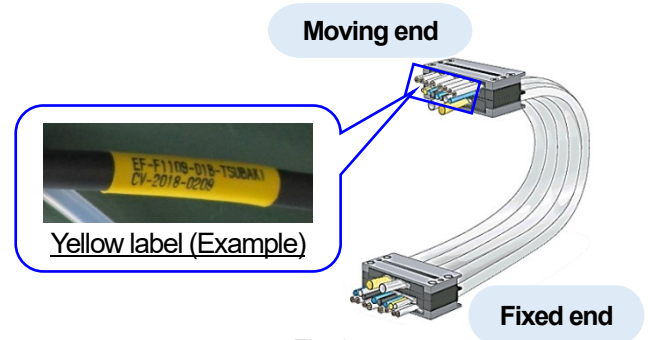

Fig. 2
2. The moving end of a cable or tube has a yellow label (Fig. 2).